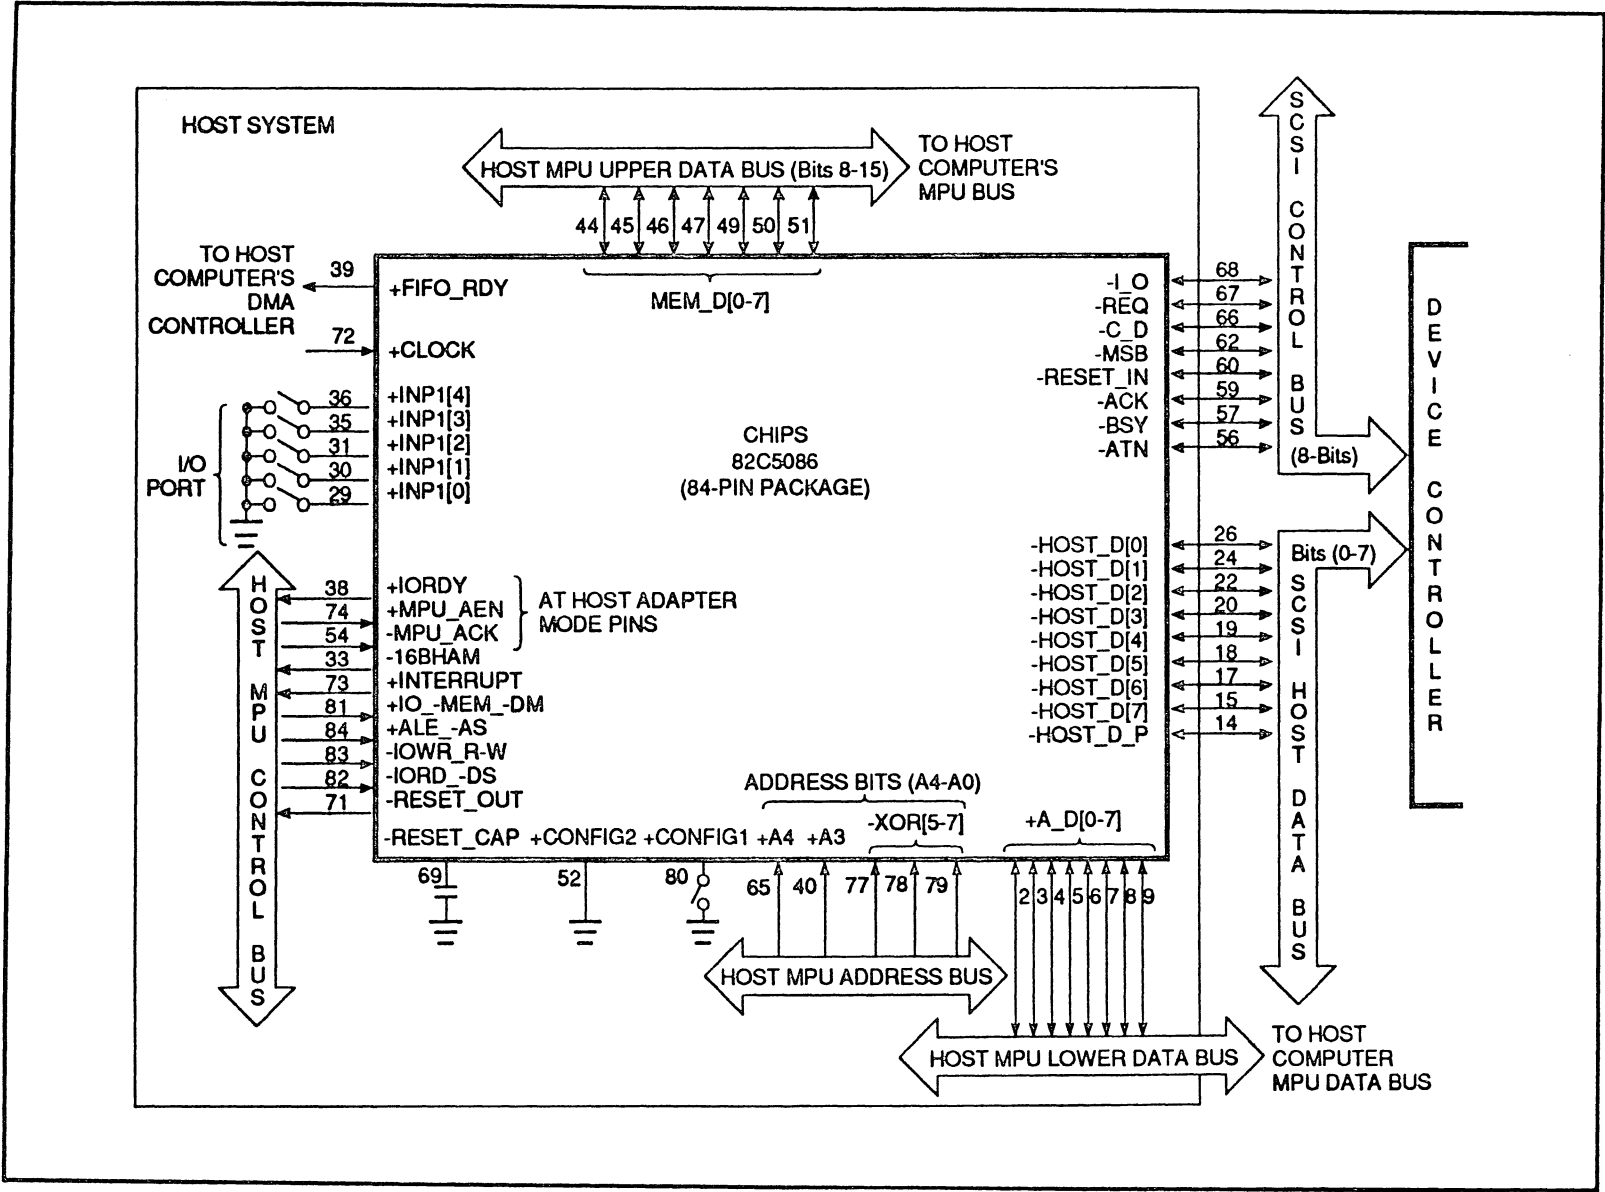
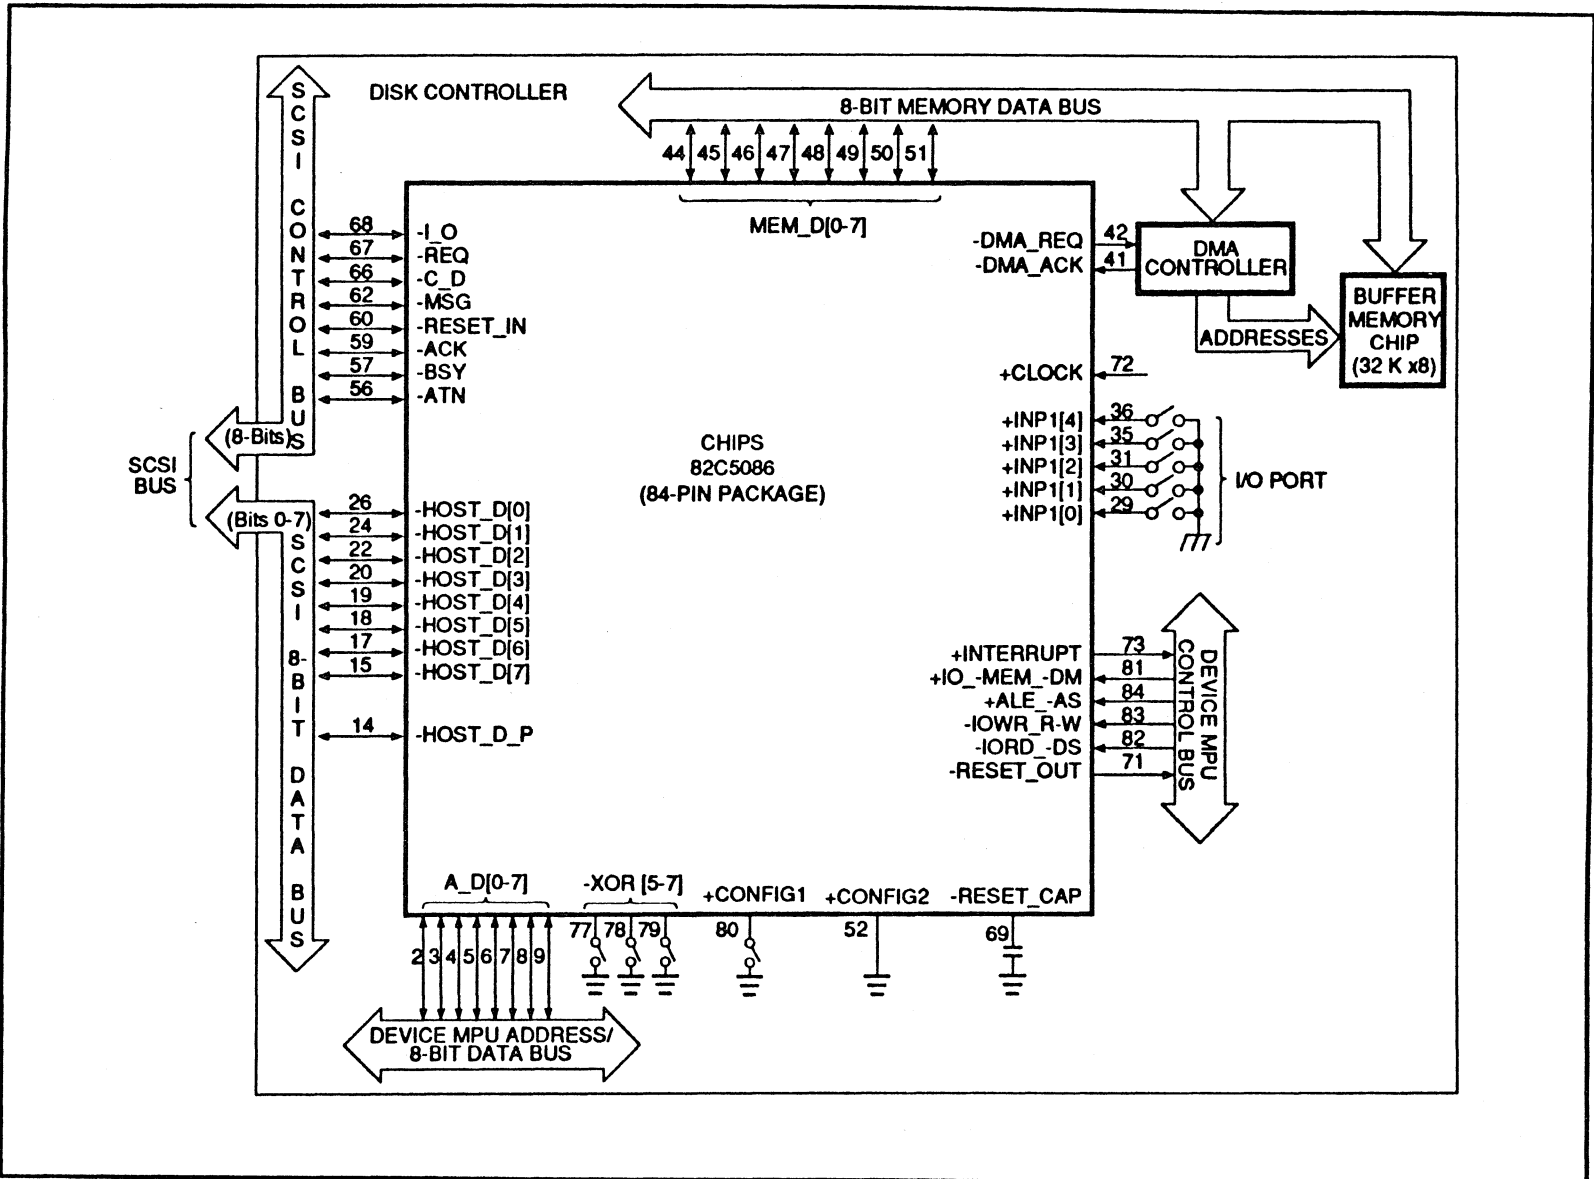

Figure 2-7. Functional Pin out of the 82C5086 Host Adapter
Figure 2-8. Functional Pin out of a 82C5086 Device Controller
Refer to Figure 2-7 for a functional pin out of a 82C5086 AT host adapter. The 82C5086 host adapter is configured for the following system: (1) the system is operating with 16 bits of MPU data and has an Intel 80286 with a non-multiplexed address/data bus; the bus has been de-multiplexed, and (2) the system has an 8-bit wide SCSI data bus.
As a device controller, the 82C5086 interfaces peripheral equipment, such as a Winchester drive, to the SCSI bus. Figure 2-8 provides a functional pin out of a 82C5086 device controller. This pin out makes the following system configuration assumptions: (1) the device MPU supports a multiplexed MPU address/data bus, and (2) there is an 8-bit wide SCSI control/data bus.
In Figure 2-8, MEM_D[0-7] are the eight bidirectional lines that comprise the memory data bus: a high-speed data bus for transfers to/from the 82C5086 device controller and buffer memory. Unlike the 16-bit host adapter system configuration shown in Figure 2-7, the memory data bus is independent from the MPU bus; it is not being used as the MPU's upper data bus.
Note that in all the signal descriptions, references to direction (e.g., MESSAGE OUT phase) is in reference to the initiator. For example, a MESSAGE OUT phase indicates the initiator wants to send a message to the target. Figures 2-7 and 2-8 provide functional pin outs of 84-pin version as an AT host adapter and as a target device controller, respectively. Refer to Table 2-10 for pad drive capacity of the 82C5086's pins.